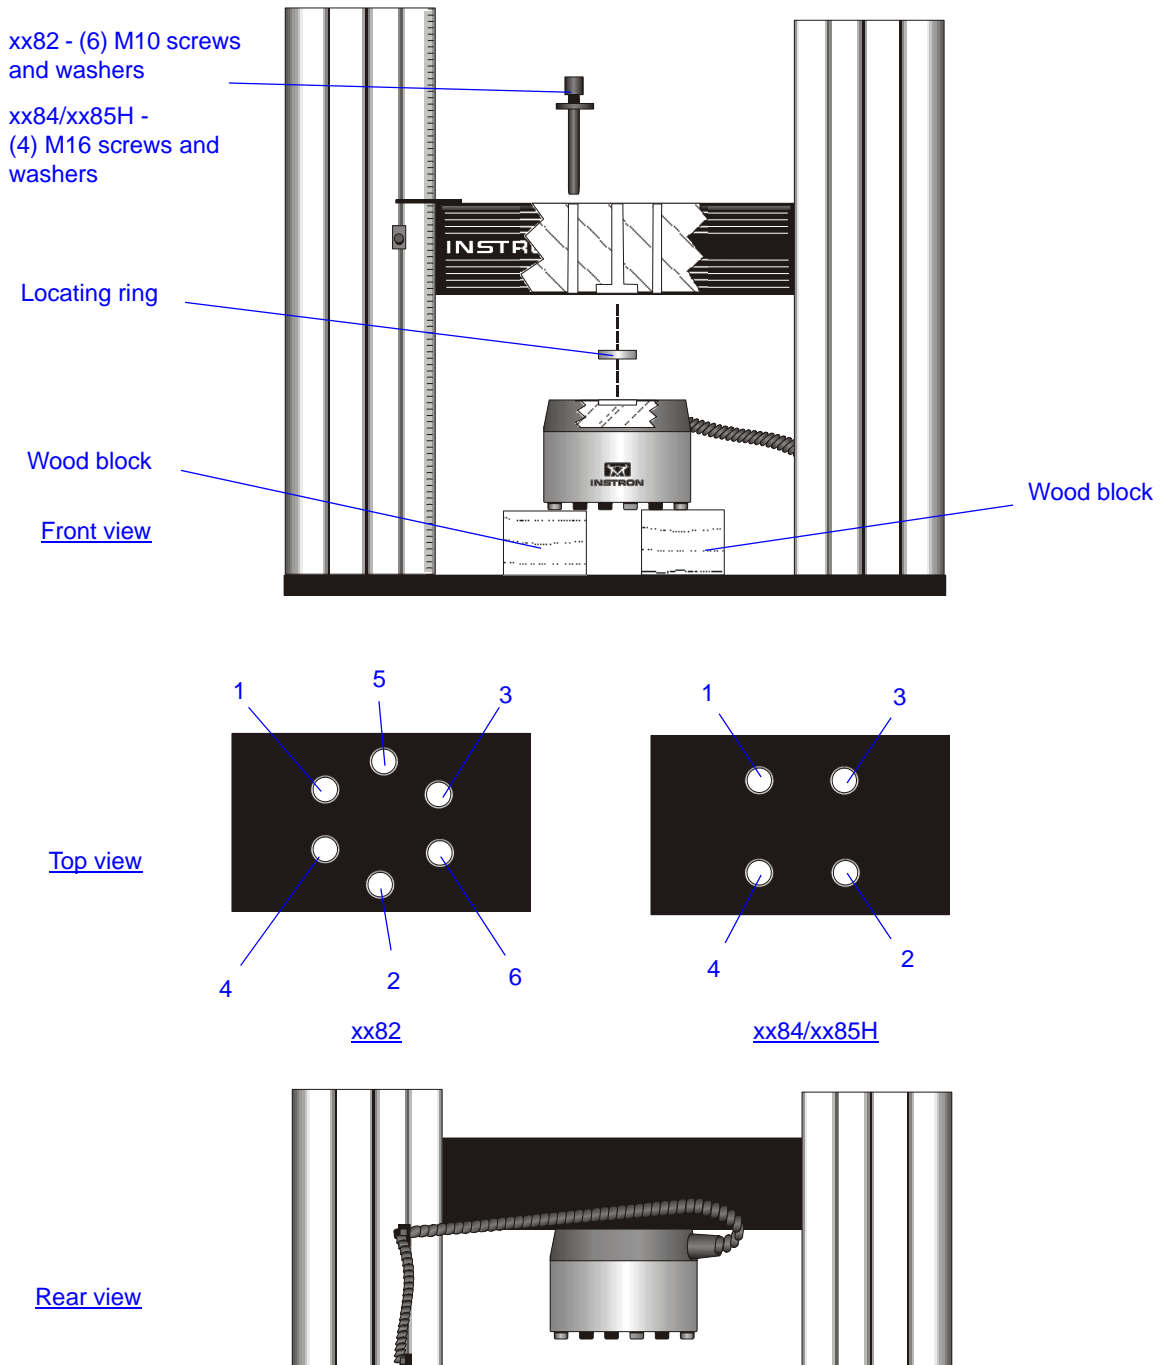

Figure 2-3. Load Cell Installation.
The 3380 models use high capacity 2525-170 load cells that attach to the bottom of the crosshead as shown in Figure 2-3 on page 2-13. However, you can also mount the load cell to the base beam for certain special testing applications. Refer to the installation drawings that accompany your load cell.
Instron performs the initial installation and alignment. Use the following procedure when you change or install high capacity load cells. Refer to Figure 2-3 on page 2-13.
2. Place two wooden blocks on the base beam. Refer to Figure 2-3 on page 2-13.
- Model 3382 - use six (6) M10 bolts.
- Model 3384 and 3385H - use four (4) M16 bolts.
10. Set the torque wrench to the appropriate torque for your model and tighten the bolts according to the numbered sequence shown in Figure 2-3 on page 2-13. The appropriate torque values for each model are: